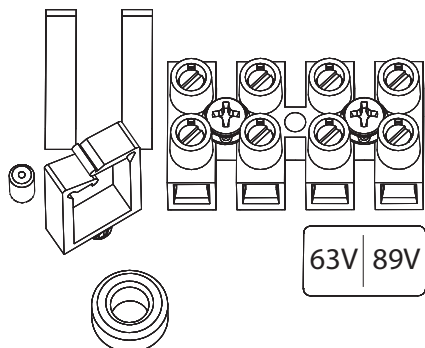
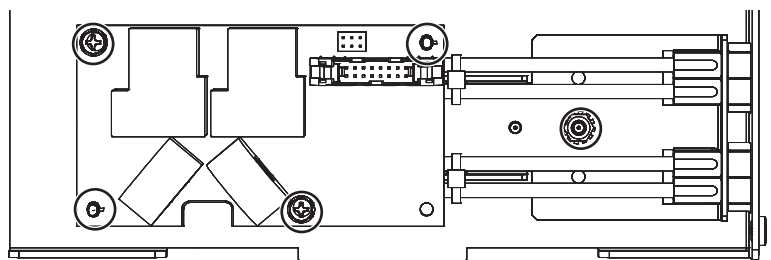

Fig. 1-9, Output Voltage Terminal Block
Fig. 1-10, AlphaDOC Standoff and Screw Locations
3. Remove the output voltage wires from the terminal block, see Fig. 1-9.
11. Connect the dual output voltage wires (Fig. 1-10), to the output voltage terminal block as shown, see Fig. 1-9. Torque terminal block screws to 7in-lbs (0.79N-m).